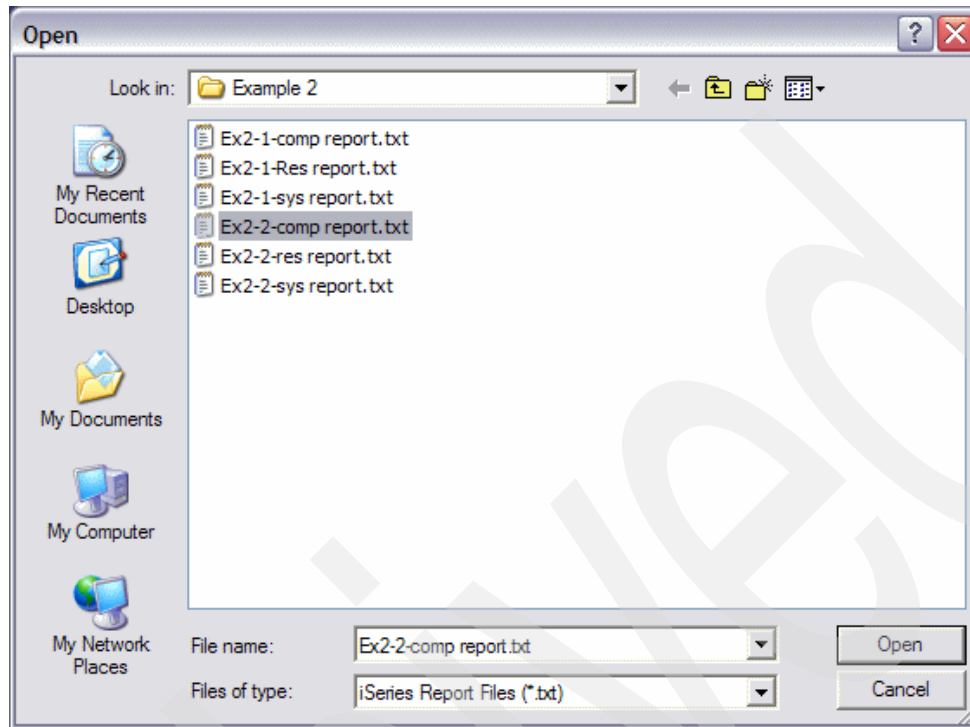

Figure 4-50 Inserting reports from another i5/OS system
3. In the Open window (Figure 4-50), select the reports of another workload to insert, and click **Open**.